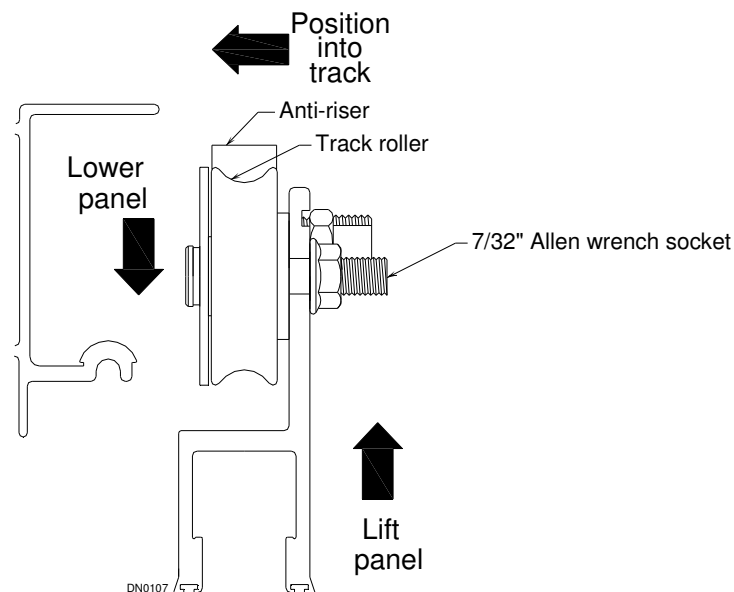

Figure 13
2. Lift door onto track. By slightly tilting door approach angle it will make it easier to allow rollers to catch track (See Figure 13).